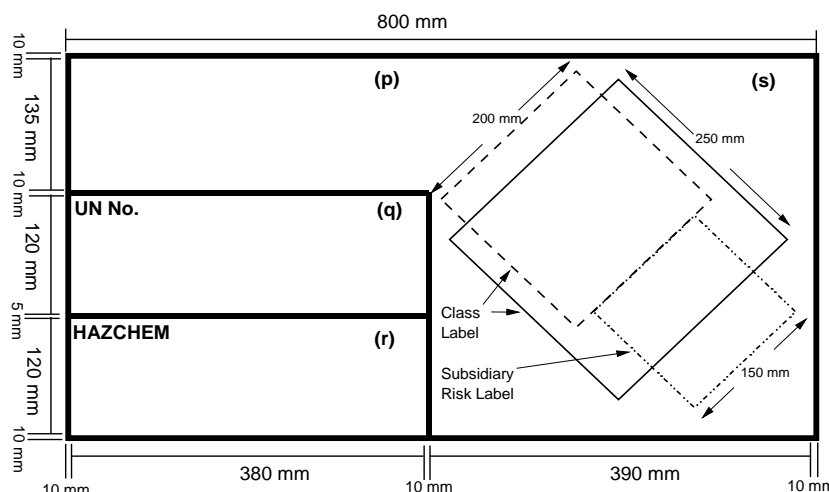

Figure 2 Template for a placard for a hazardous chemical stored in bulk
- a. comply with the template in figure 2; and
- b. subject to subclause (4)(b) and (c), have dimensions not less than those shown in figure .2.
The placard must include the following in figure 2 for the hazardous chemical (*see notes below):
For spaces (p), (q) and (r) in figure 2 the numerals and letters used for showing the proper shipping name, UN number and Hazchem Code must be:
For space (s) in figure 2:
- comply with the form in figure 2; and
- have dimensions not less than those shown in figure 2.
The placard must include the following, as indicated in figure 2, for the hazardous chemical:
For space (p) in figure 2, the letters used for showing the name must be: